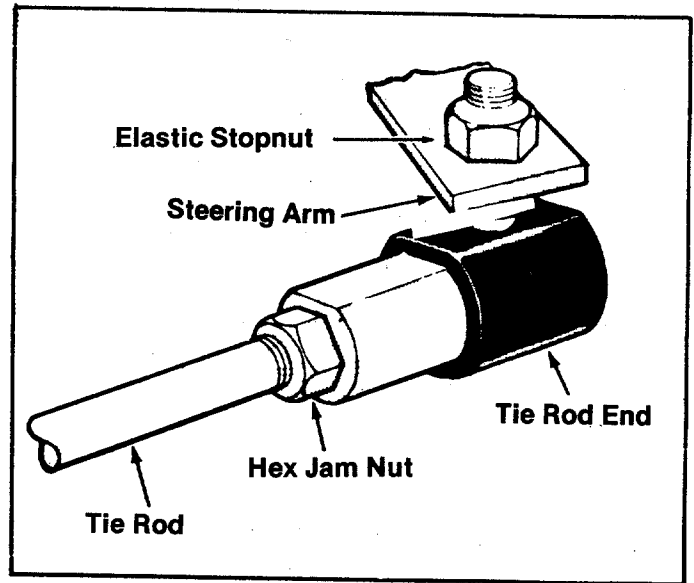

FIGURE 18. TIE ROD END
- Step 1. Remove the elastic locknut and drop the tie rod end from the wheel bracket. See figure 18.